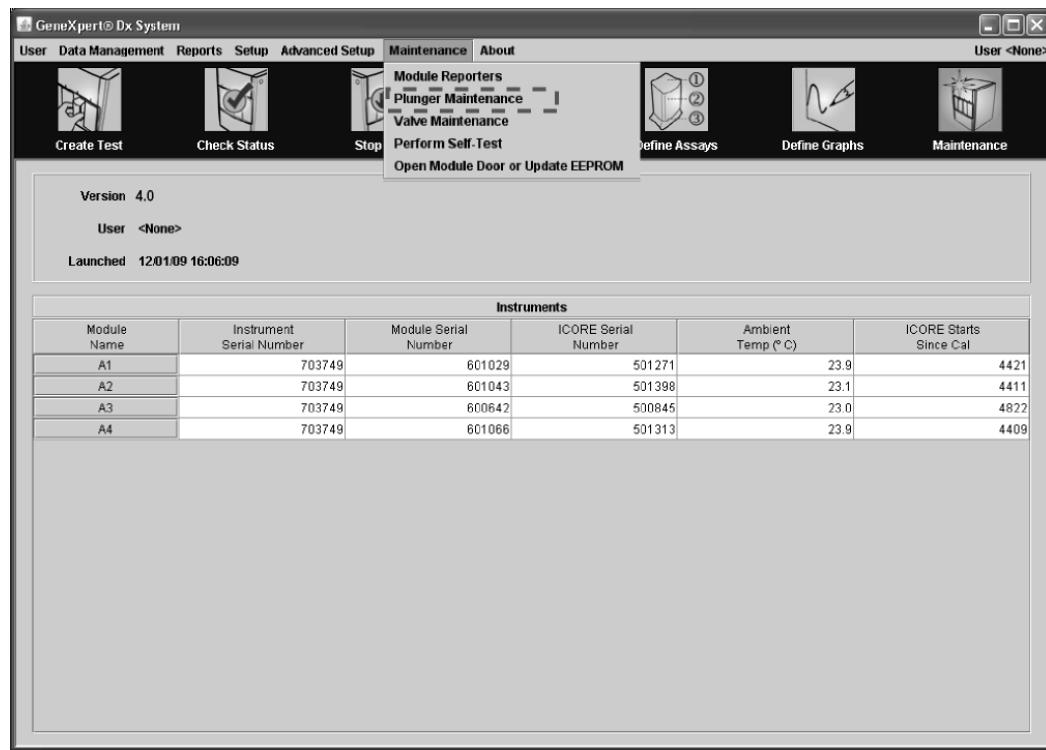
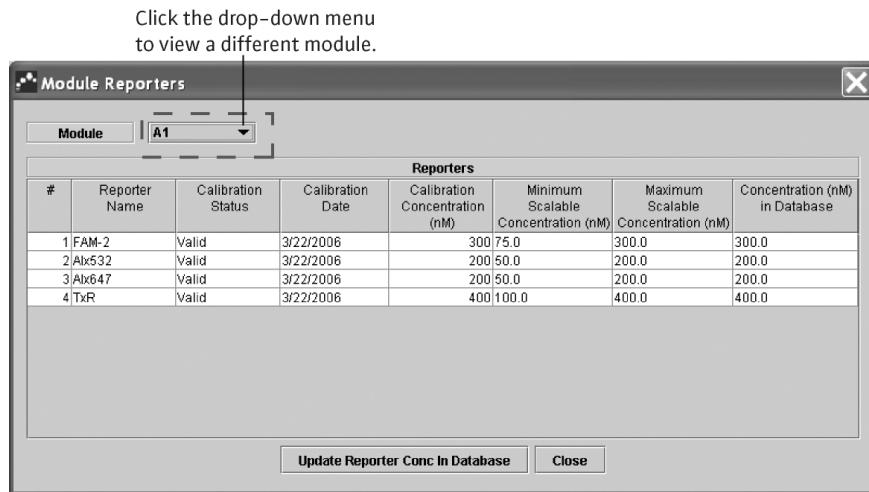

Figure 10-1. Maintenance window
Figure 10-5. Module Reporters dialog box
2. In the GeneXpert Dx System window, click Maintenance on the menu bar. The Maintenance window appears (Figure 10-1).
1. To check whether the instrument requires calibration, in the Maintenance window (Figure 10-1), look at the **ICORE Starts Since Cal** column. On the maintenance menu, click **Module Reporters**. The Module Reporters dialog box appears (Figure 10-5).
Cepheid Technical Support may ask you to use the Module Reporters tool when investigating the source of possible module-related problems. It provides calibration information and other data, shown in Figure 10-5.